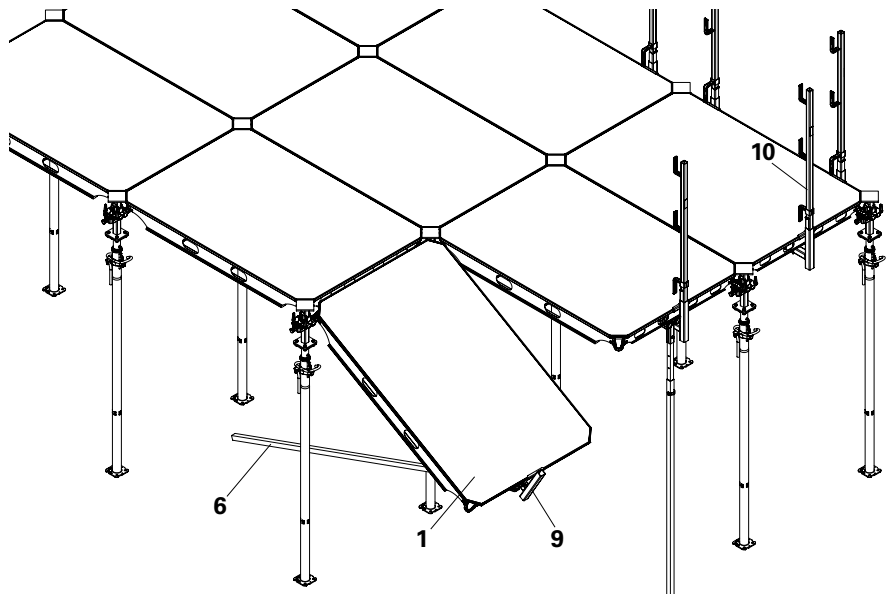

Fig. A9.03
4. Swing the panel ADP (1) along with guardrail holder (9) upwards using the shuttering aid (6). (Fig. A9.03)
5. Insert the guardrail post HSGP-2 (10) into the guardrail holder (9) from top. (Fig. A9.03)